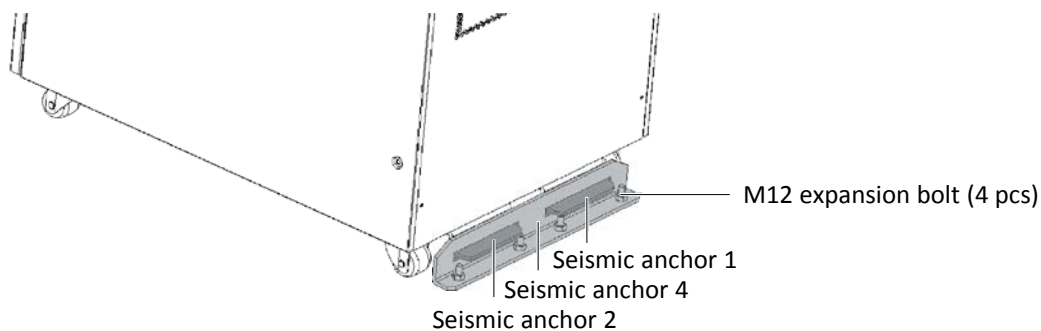

Figure 8-18 Fixing seismic anchor 4 on the ground and fixing the cabinet
4. As shown in Figure 8-18, use four M12 expansion bolts to fix seismic anchor 4 on the ground, then push the UPS backward to insert seismic anchor 1 and seismic anchor 2 into the two holes of seismic anchor 4 respectively.